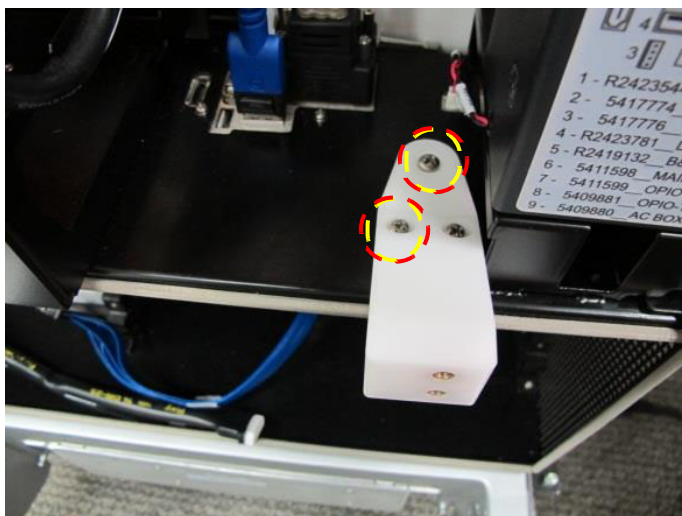

Figure 8-15 Removing the RS Cable Assembly - Rear Part
- 8.) Unfasten the three securing screws shown in Figure 8-15 and remove the rear part of the RS cable assembly from the top of the electronic cage.
- 1) Fit the rear part of the RS cable assembly to the top of the electronic cage and secure firmly in position with the three screws - see Figure 8-15.